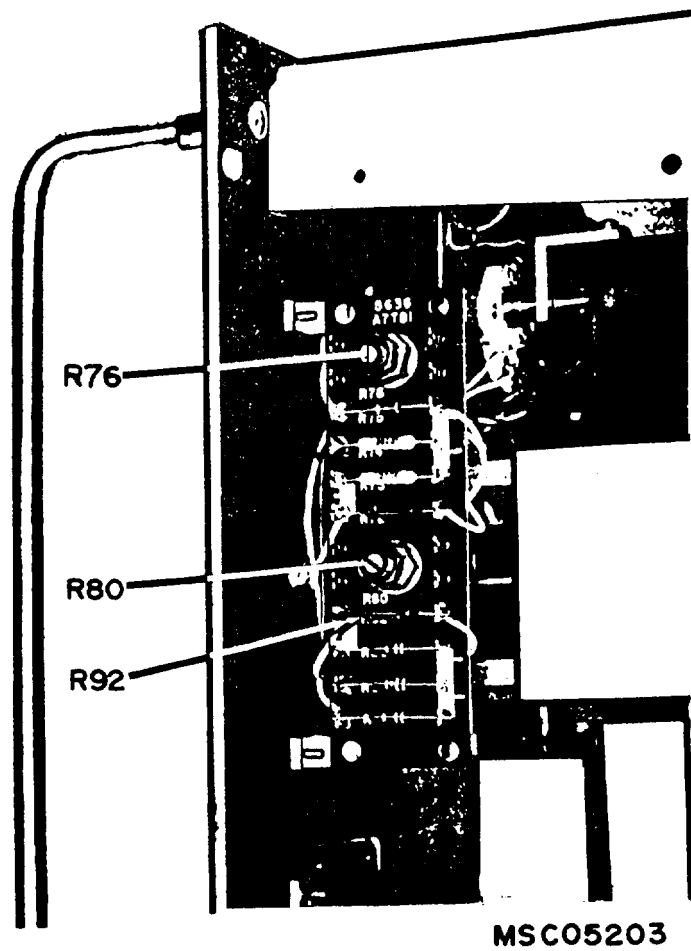

Figure 2. Test instrument - right side view
(1) Disconnect cable (B6) from power splitter (A6).
(2) Connect digital voltmeter (A1) across R92 (fig. 2), using leads (B7 and B8).
(3) Adjust **ZERO SET COARSE** and **FINE** controls for a 3.0-V dc digital voltmeter indication.
(4) Adjust R80 (fig. 2) for **ZERO SET** indication on TI **POWER METER** (R).
(5) Reconnect cable disconnected in (1) above.
(6) Set microwave measurement system (A3) controls for a 7.1 GHz **CW** output.
(7) Adjust microwave measurement system level control and variable attenuator (A8) for a 0.0-dBm indication on power meter (A5).
(8) Adjust R76 (fig. 2) for **POWER SET** indication on TI **POWER METER** (R).
(9) Repeat (7) above for microwave measurement system frequencies of 7.5, 8.0 and 8.5 GHz, while recording TI **POWER METER** indication at each frequency.
(10) Average TI **POWER METER** maximum and minimum indication recorded in (9) above. Algebraically, subtract this value from TI **POWER METER** indication at 8.5 GHz.
(11) Set microwave measurement system controls for a 8.5 GHz **CW** output and repeat (7) above.
(12) Readjust R76 until TI **POWER METER** indicates value computed in (10) above.